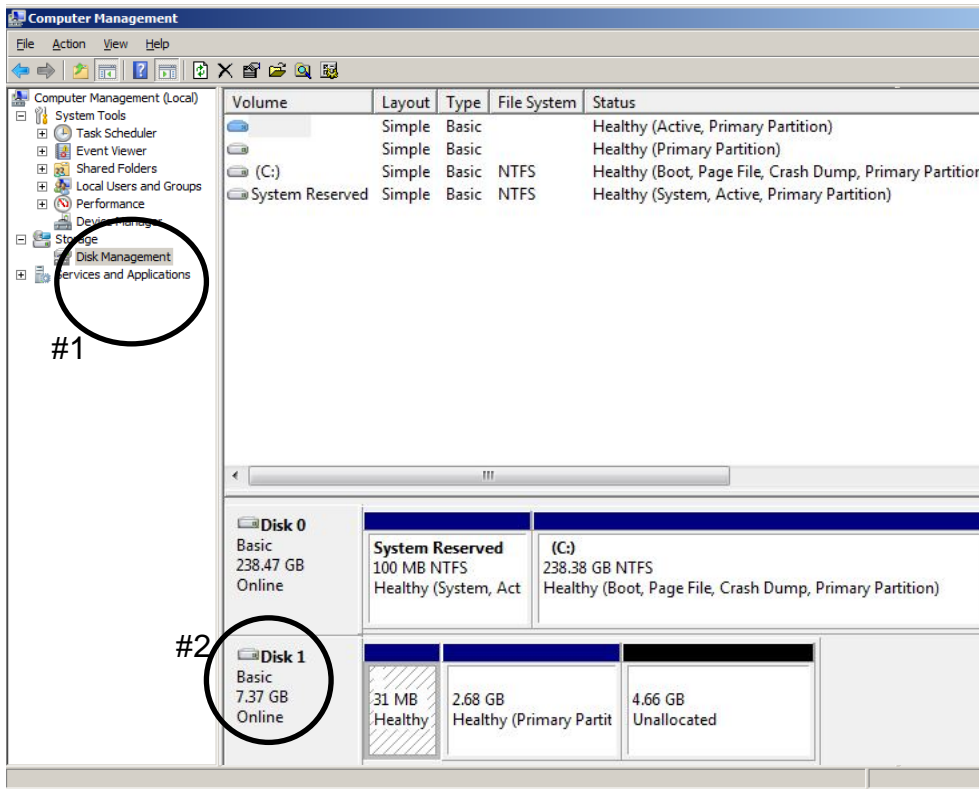

Figure 5: Computer Management window
- (c) The Computer Management window (see Figure 5) will open. Select “Disk Management” on the left (see Figure 5, #1).
- (d) Identify which “Disk” is your flash card (see Figure 5, #2). You may have to disconnect the SSD to confirm which “Disk” number disappears. Note this “Disk” Number for future reference.